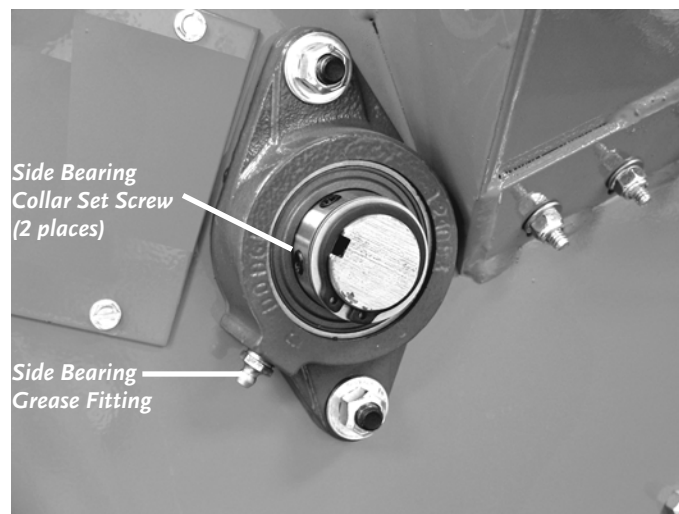

Figure 6
1. Wipe all dirt, etc., from the grease fittings with a clean cloth (**Figure 6**).
2. Apply no more than three (3) pumps of quality general-purpose lithium grease with a hand-pumped grease gun to each grease fitting, one (1) on the Chipper Side Bearing, and one (1) on the Drive Side Bearing.